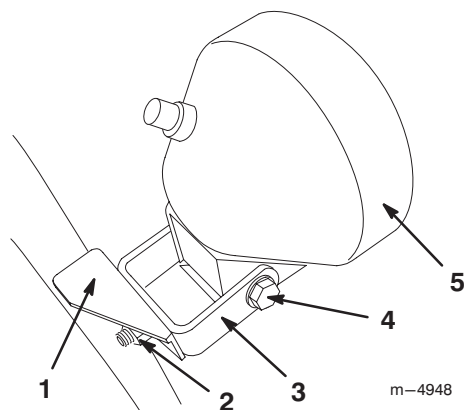

Figure 27
1. Loosen the two nuts on the U-bolt that hold the headlight bracket to the handle (Fig. 27).